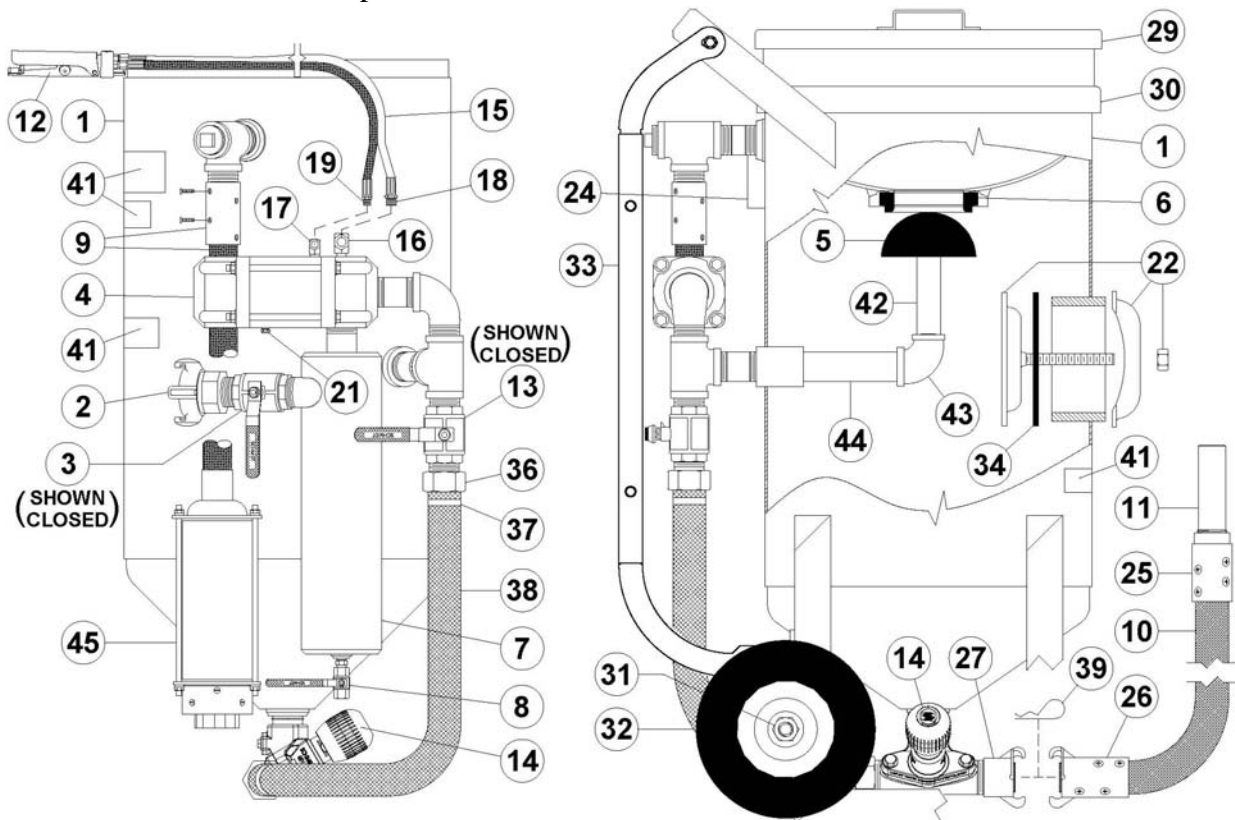

Figure 6.2 – MV3 Valve Abrasive Blaster with pneumatic blast controls
6.1 Abrasive Blaster Setup Procedure (see Figure 6.2)
- 6.2.3. Close the air inlet ball valve (#3) to disable the blaster and the deadman blast control. The ball valve is closed when the handle is fully turned to the position shown in Figure 6.2 (handle perpendicular to body). The handle tab will bottom against the ball valve body in the closed position. **Note:** A faulty ball valve may allow air flow even in the closed position. Confirm air flow is stopped by opening the drain ball valve (#8) or by loosening the twinline connection (#18) to check for air flow. Replace faulty ball valves.